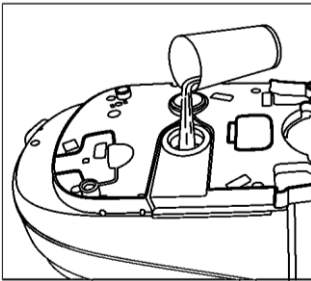

Fig 10
7. Pour one cup of tap or filtered water through the boiler underneath hole as Fig 10